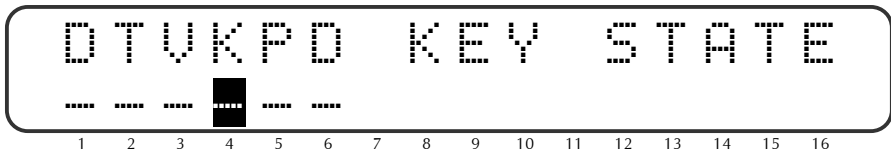

Figure 8 - System Configuration (2) 2nd Screen
- ◆ Enter system configuration (2) second screen (see Figure 8) and set a “” under the K. (sets the key state to be momentary)